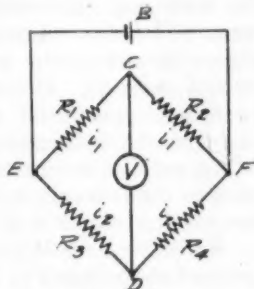
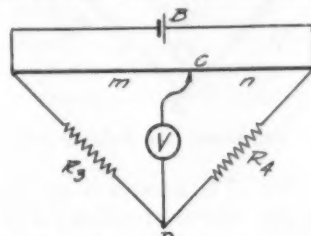

Fig. 1. Principle of Wheatstone Bridge
Fig. 2. Wheatstone Bridge with Slide Wire
The radio measuring equipment here to be considered is an application of the Wheatstone bridge to radio work. Its theory will be given here briefly for the benefit of those radio fans that are not familiar with it. Fig. 1 represents a network of four resistances, R_1 , R_2 , R_3 and R_4 , connected as shown. Across two terminals C and D is connected a very sensitive instrument such as a galvanometer or delicate voltmeter. A battery B is connected between the other two terminals, E and F . Now current from the battery has two paths to flow through: (1) From battery B to E through R_1 to C through R_2 to F and back to the battery; and (2) From battery B to E through R_3 to D through R_4 to F and back to the battery. Thus the same current flows through R_1 and R_2 . Let us call this current i_1 . Also the same current which flows through R_3 flows through R_4 . Let us call this current i_2 .
Let us suppose that such an adjustment has been made. The voltmeter V will therefore not be deflected. The currents through the different resistances are shown in Fig. 1. Since point C is
Suppose then, that in place of the resistances R_1 and R_2 we connect a uniform resistance wire l as in Fig. 2, with a sliding contact from the voltmeter running along the length of the resistance wire, called a "slide wire." It will be observed by comparing Figs. 1 and 2 that these two networks are identical, except that in place of a resistance R_1 we have a portion of a resistance wire, namely m in Fig. 2, and in place of R_2 we have another portion of a resistance wire, namely n . However m
In other words all we require for such a measuring apparatus is a wire of uniform diameter along which a sliding contact can be made, one standard resistance R_4 , and an indicating device. If the wire is laid along the length of a ruler between E and F , say along a meter stick having 100 divisions, then no matter where the sliding contact is we can tell at a glance what m and n are. Suppose that the slider is moved along the wire and that a balance is secured at 43, counting from E , Fig. 2. Then m is 43 and n is 100 minus 43 or 57. Thus knowing what R_4 is, and what the ratio of m to n is, we can immediately tell what the unknown resistance R_3 is.